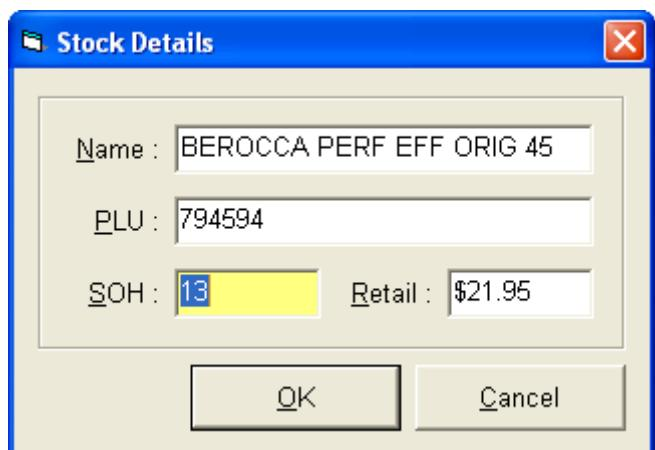

Figure 335
4. When the item is displayed (Figure 335) on the screen you can amend the stock on hand to be the Actual Stock on Hand amount.